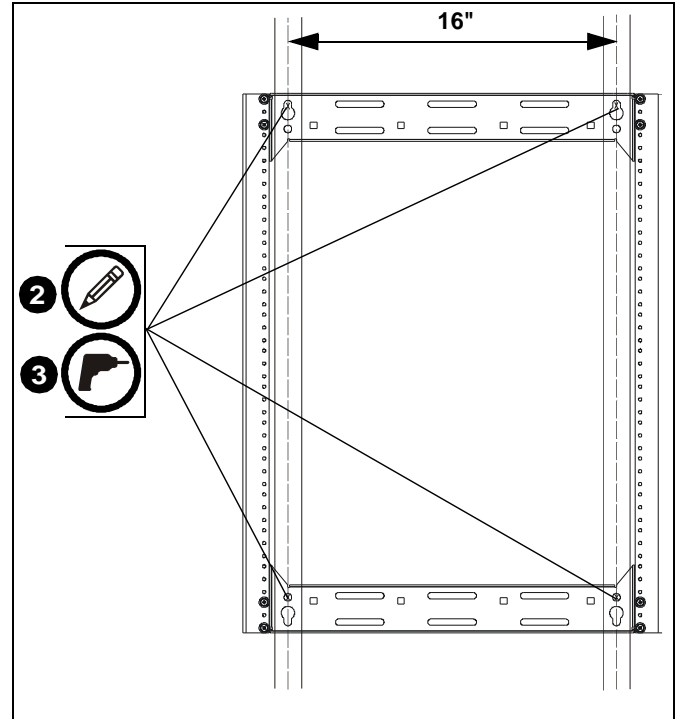

Figure 10
- Place assembled frame over studs and mark hole locations. (See Figure 10)
- Drill four 7/32" (5.5mm) diameter holes to a depth of 3 1/2" (89mm) at marked locations. (See Figure 10)